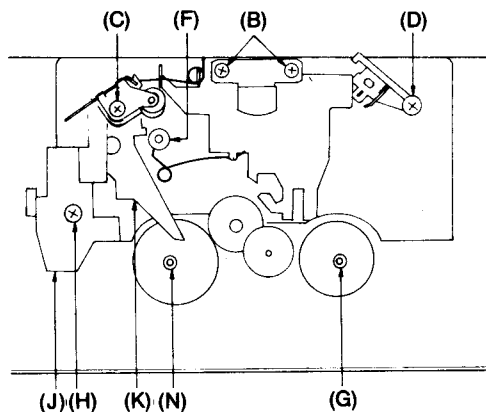

Fig. 2
3. Attach the motor ass'y to tape 1 and tape 2 mechanisms with the seven screws (A).
Remove the two screws (2×7)mm (B). (See Fig. 2.) (Be sure to adjust the azimuth after reattaching.)
Remove the screw (3×6)mm (C). (See Fig. 2.)
Remove the screw (3×6)mm (D). (See Fig. 2.)
Temporarily secure the flywheel belt to the motor that drives it. Remove the Fast Forward belt. Remove the washer (F). (See Fig. 2.)
Remove the washer (G). (See Fig. 2.)
Remove the screw (3×6)mm (H). (See Fig. 2.)
Remove the cassette eject lever (J). (See Fig. 2.)
Remove the auto lever (K). (See Fig. 2.)
Remove the washer (N). (See Fig. 2.)